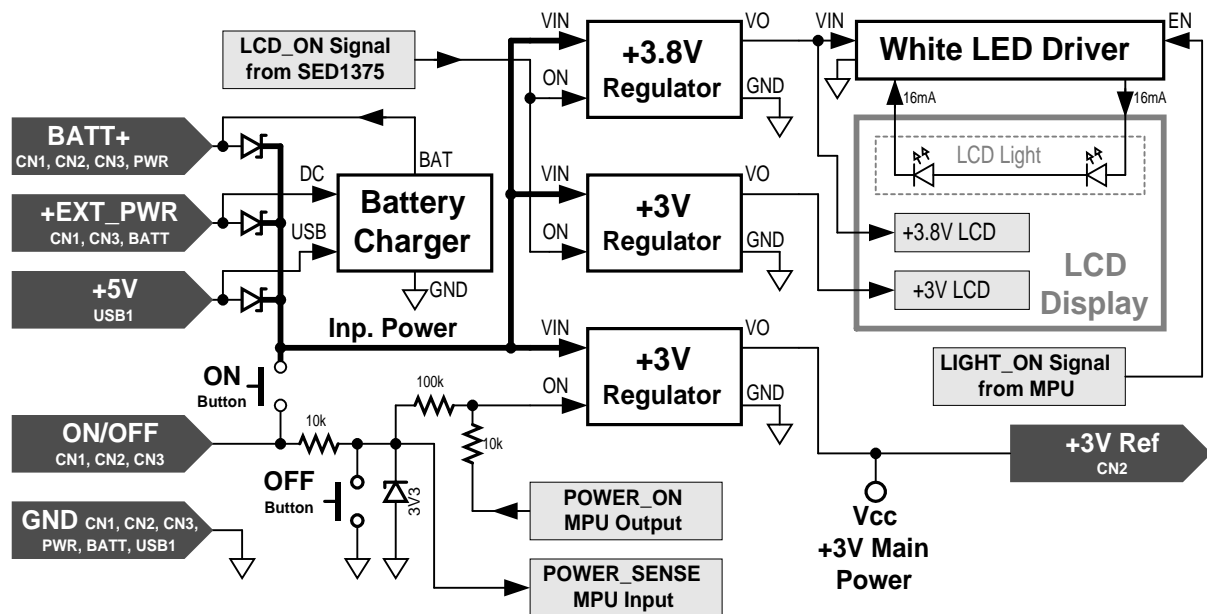

Figure 6. ezLCD-002 Power Supply and Distribution
- by pressing the ON button (Figure 6) on the back of the display
- by pressing the OFF button (Figure 6) on the back of the display